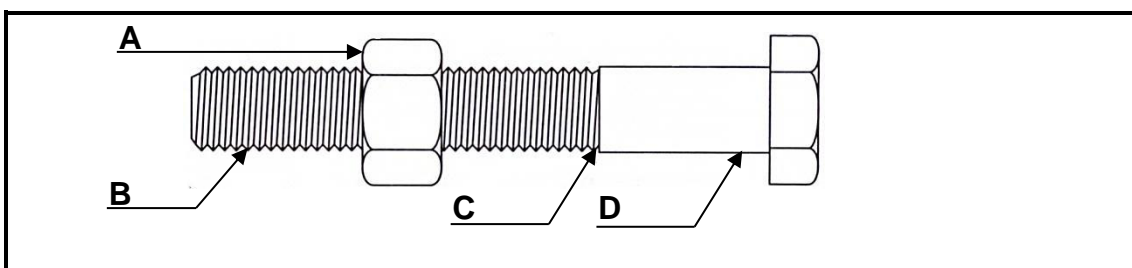

FIGURE 2.3
- 2.3 Name parts **A** to **D** of the bolt in FIGURE 2.3.